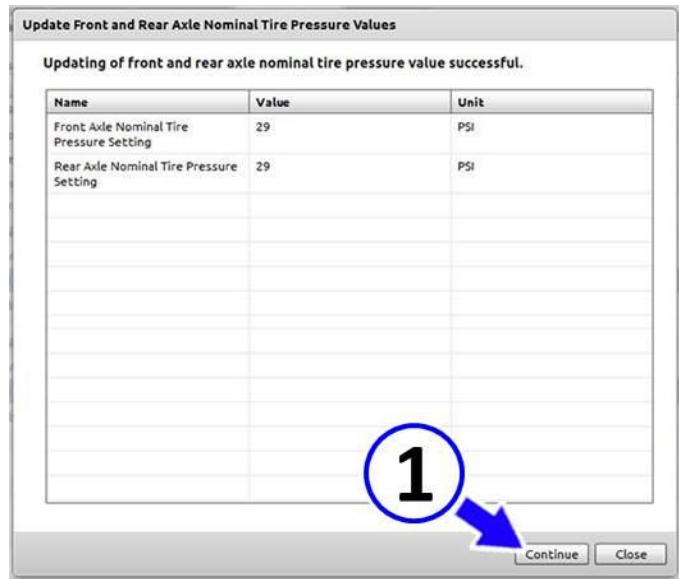

Fig. 4 Stored Tire Pressure Values
5. The window shown in (Fig. 4) displays the front and rear tires pressure values stored in the TPMS control unit. Press the "Continue" button (1) as shown in (Fig. 4).